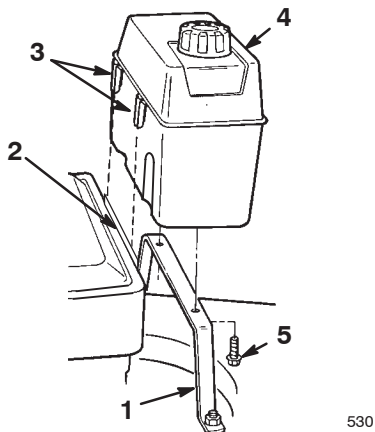

Figure 3
- Start the two self-tapping screws into the bottom of the fuel tank and then remove the screws (Fig. 3).
- Hook the plastic clips on the front of the fuel tank onto the fuel tank bracket (Fig. 3).
- Secure the fuel tank to the tank base with the two self-tapping screws (Fig. 3). **Do not overtighten the screws.**